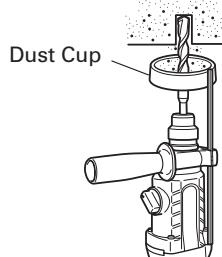
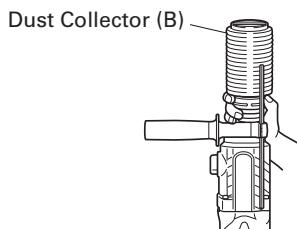

Fig. 4
Fig. 5
## 7. Installation of dust cup or dust collector (B) (Optional accessories) (Fig. 4, Fig. 5)
Use the dust cup by attaching to the drill bit as shown in Fig. 4.
When using dust collector (B), insert dust collector (B) from the tip of the bit by aligning it to the groove on the grip. (Fig. 5)